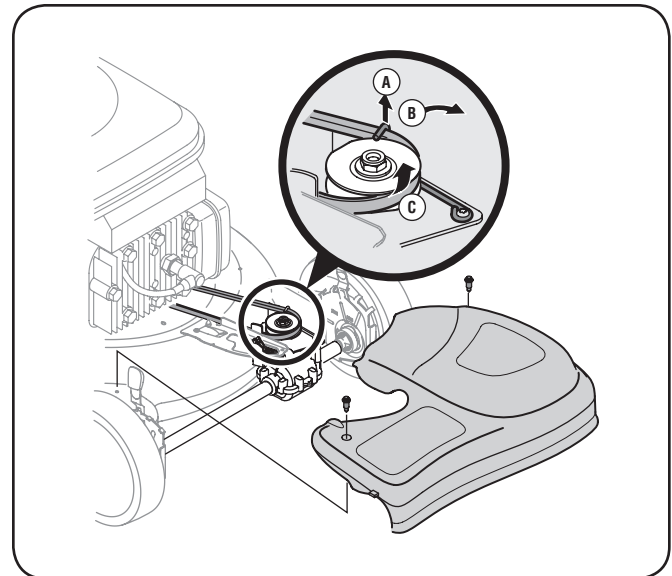

Figure 7-2
1. Remove two shoulder screws securing front drive cover to mower deck. See Figure 7-2. Press inward on sides of front drive cover and release tabs that secure it to the height adjuster brackets. Remove drive cover from mower.
- b. Pivot it out away from the drive pulley. See Figure 7-2 inset.